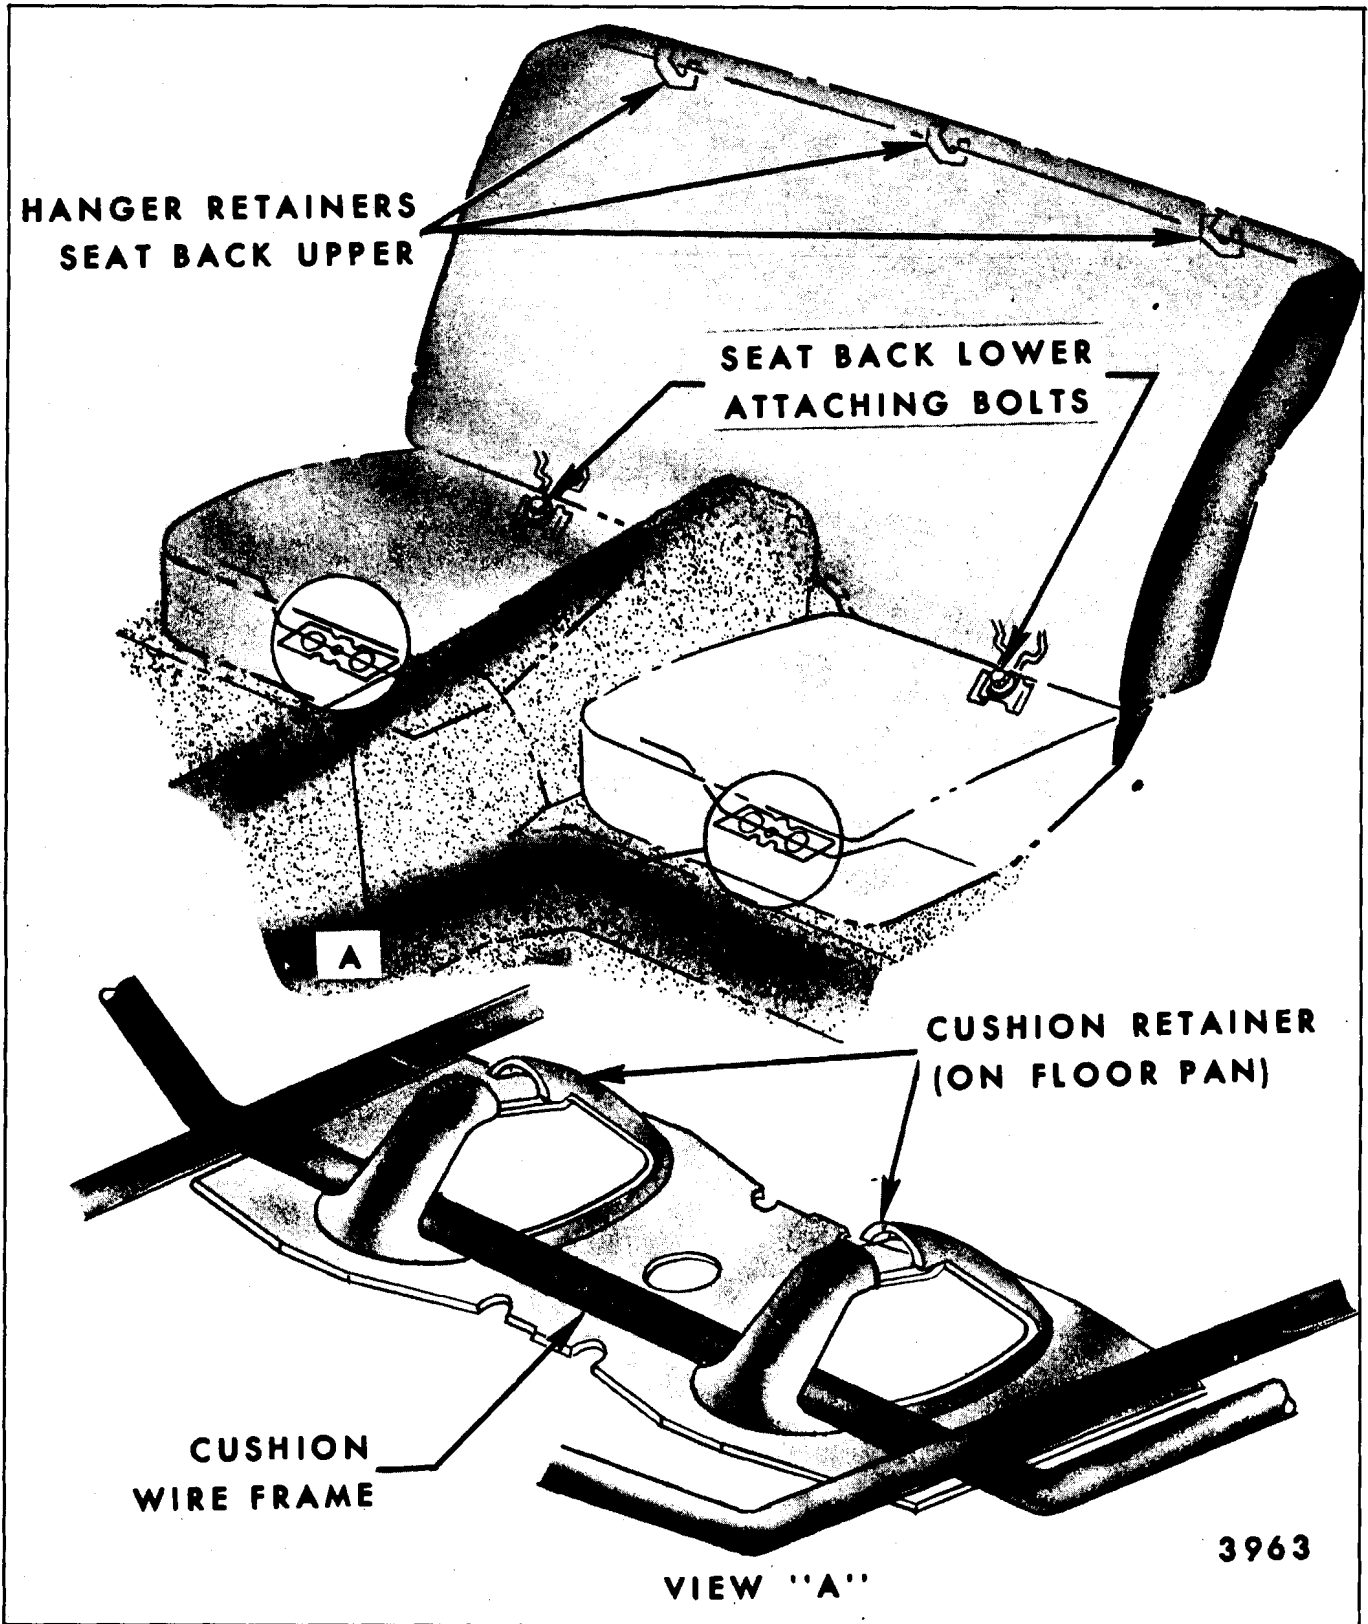

Fig. 14-53-Rear Seat Cushion and Back Installation - "F" Body Styles
- Push lower forward edge of seat cushion rearward; then, lift upward and pull forward on seat cushion frame to disengage cushion frame wires from retainers on rear seat pan (Figs. 14-53, 14-52 and 14-54).
2. At bottom of seat back bend out tabs and where present, remove screws securing the lower portion of the seat back to floor panel. On convertible styles, remove screw from rear side of seat back panel support securing upper corners of seat back to panel (see Figs. 14-53, 14-52 and 14-54).